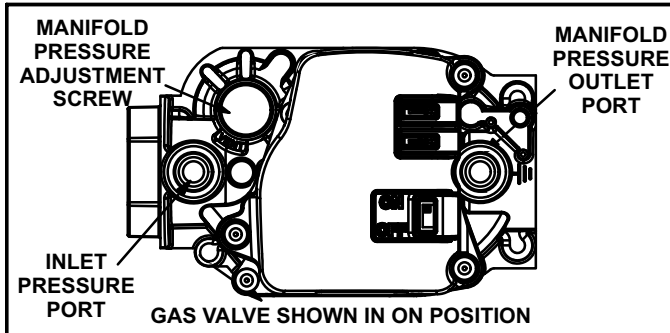

FIGURE 18
- 6 - Move gas valve switch to **OFF position**. Do not force. See figure 18.
- 8 - Move gas valve switch to **ON position**. Do not force. See figure 18.
- 4 - Move gas valve switch to **OFF position**. Do not force. See figure 18.